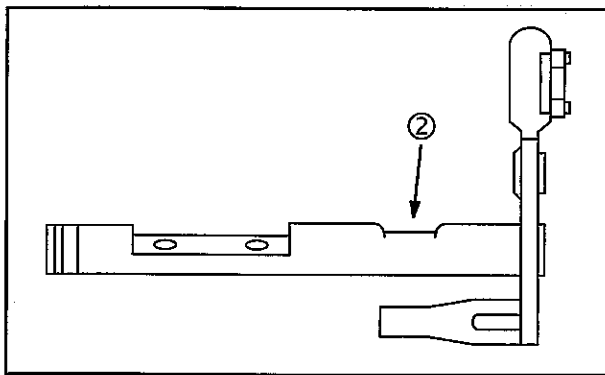

Fig. 42
2. Inspect throttle shaft and choke shaft for wear (2), Fig. 42.